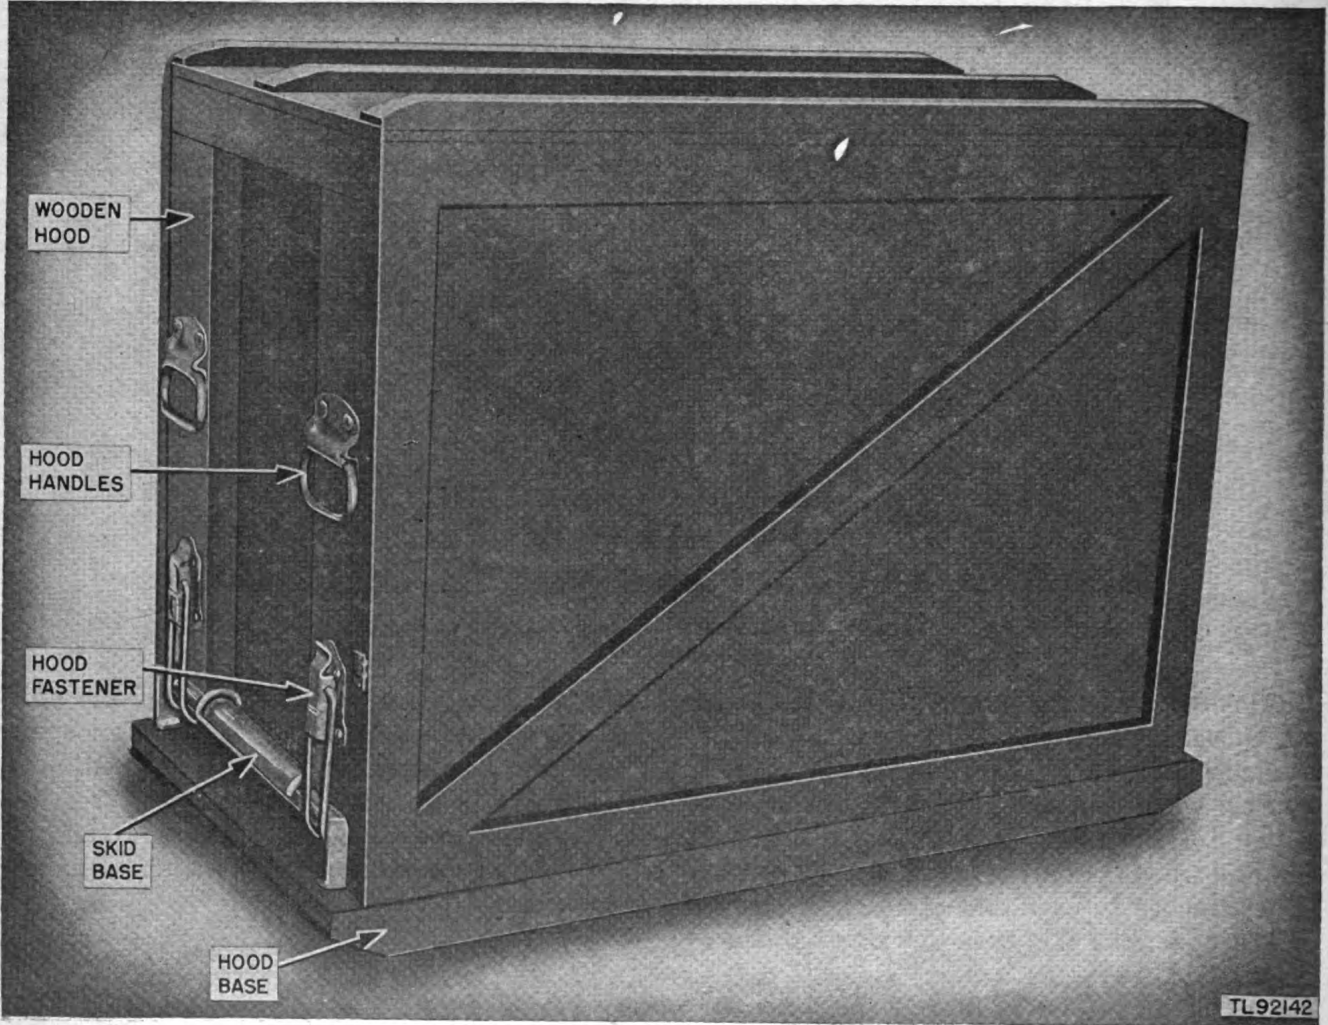

Figure 16. Wooden hood,
c. POWER UNIT PE-49-F, PE-49-G, OR MOTOR GENERATOR MG-37-A (fig. 16). This hood is made entirely of wood and is fastened together with resin-coated nails. It provides protection for the power unit during transportation and when the unit is not in use. Two drawbolts attached to each end of the hood can be hooked under the skid base carrying handles to
d. HOOD BASE. The removable hood base (fig. 16) on Power Unit PE-49-F and PE-49-G and Motor Generator MG-37-A provides a support for the entire unit and hood during transportation, and permits skidding the power set over rough terrain in the field. It is constructed of wood and is held together by resin-coated clinch nails. Four J-bolts hold skid mounting to the hood base.